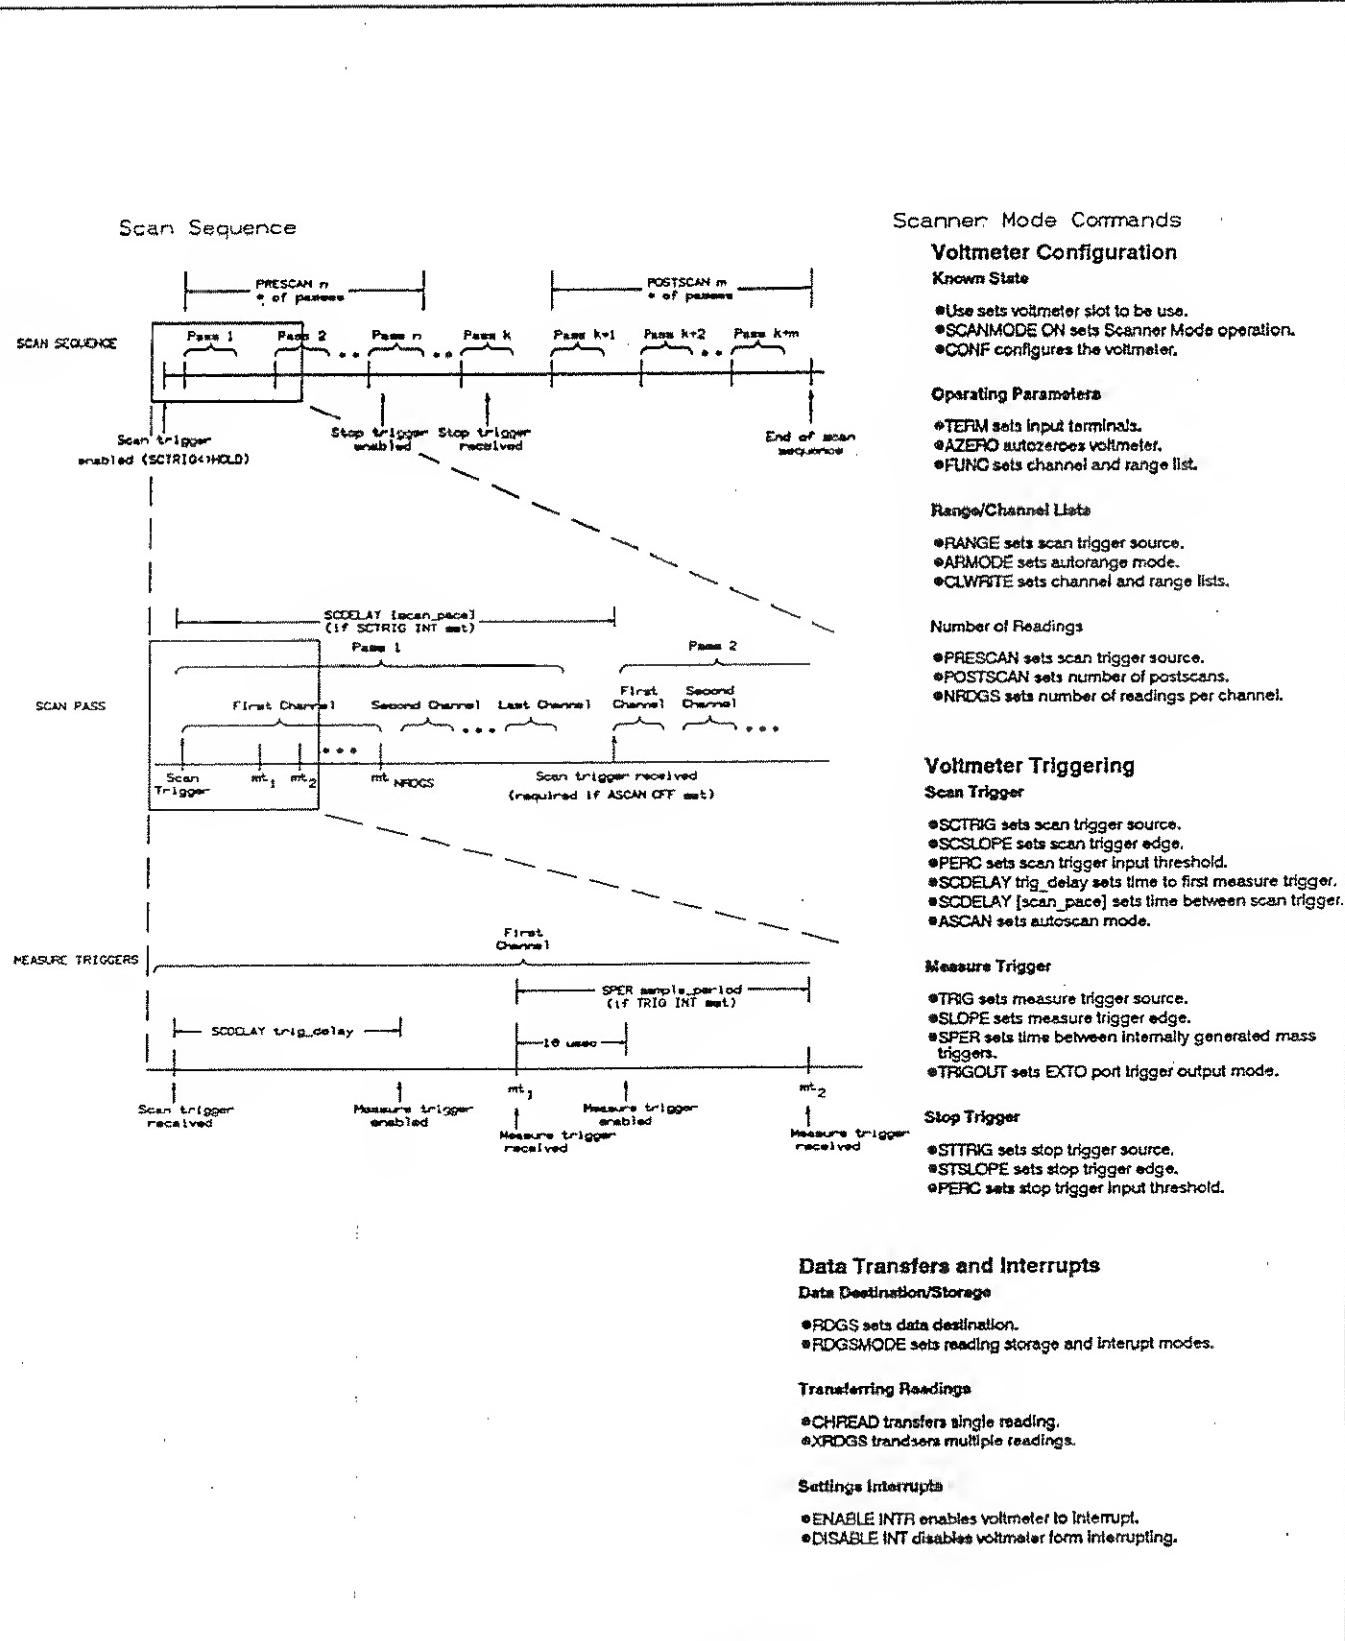

Figure 5-8. Voltmeter Scan Sequence
**Voltmeter Operation** Figure 5-8 shows the voltmeter scan sequence and summarizes applicable commands for Scanner Mode ribbon cable operation. The scan sequence does not include voltmeter configuration and reference measurements made by CONF.
The commands in Figure 5-8 are grouped into the three categories discussed in this section: voltmeter configuration, voltmeter triggering, and data transfers and interrupts. Refer to "Low-Level Commands" (Table 5-13) for further information on the commands. A description of the scan sequence follows.
As noted, a scan pass consists of NRDGS measurements on each channel in the scan list as defined with CLWRITE. Each measurement is initiated by a measure trigger ( $mt_1$ , etc. in Figure 5-8). If NRDGS 1 is set, one measurement is made on each channel. For NRDGS 1, NRDGS measurements are made on each channel.